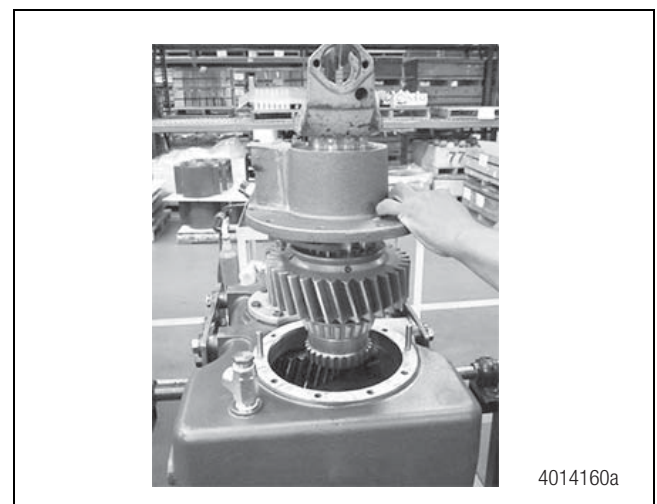

Figure 5.10
4. Remove the carrier and shaft assembly by lifting on the shaft yoke. Discard the gasket. Figure 5.10.